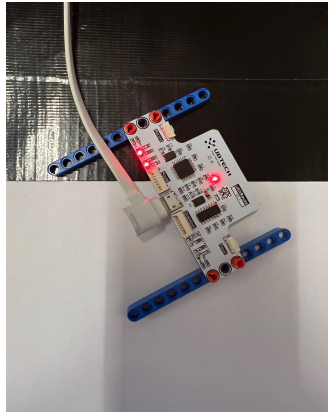

Figure 4
10. Move your sensor in and out of the black and white areas. When individual sensors are over the black area, the corresponding LED on top should illuminate. *See Figure 4.*